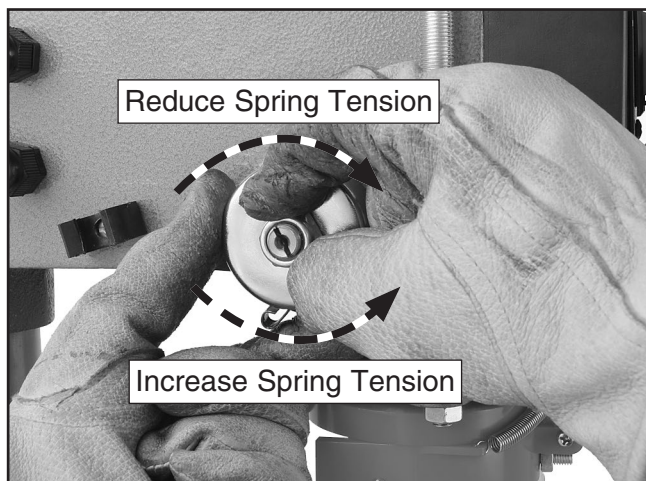

Figure 40. Loosening cover and jam nut.
3. While holding the spring lock cover against the side of the headstock so the cover stays splined with the locking lug, as shown in **Figure 40**, loosen the jam nut and loosen the cover nut approximately $\frac{1}{4}$ " each.
6. Rotate the cover counterclockwise to increase spring tension, or let the cover slowly unwind in the clockwise direction to reduce spring tension (see **Figure 40**).